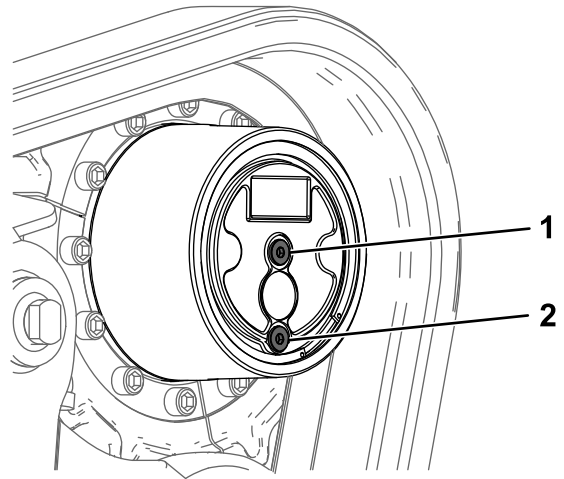

Figure 64
2. Park the machine on a level surface so that the drain plug is in the 6 o'clock position (Figure 64), engage the parking brake, and lower the loader arms.
5. Remove the check plug and the drain plug and allow the gear lubricant to drain (Figure 64).
6. Install the drain plug (Figure 64).